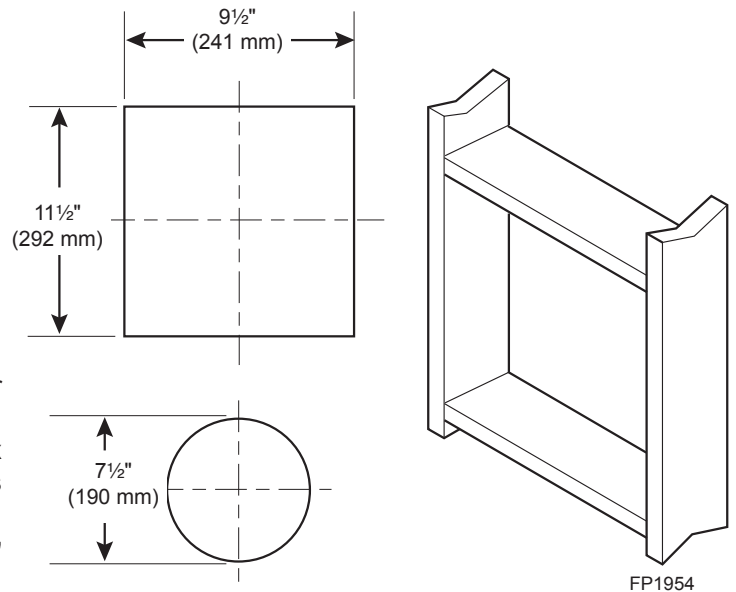

Figure 17 - Vent Opening Requirements
Combustible Walls: Cut a 11½"H x 9½" W (292 x 241 mm) hole through the exterior wall and frame as shown. *Figure 17*
3. Attach vent pipe assembly to the fireplace. Set fireplace in front of its permanent location to insure minimum clearances. Mark the wall for a 11½"H x 9½"W (292 x 241 mm) rectangle hole (for noncombustible material such as masonry block or concrete, a 7½" [190 mm] diameter hole is acceptable). *Figure 17*. The center of the hole should line up with the center line of the horizontal rigid vent pipe end. Be sure to allow for minimum rise. Cut a 11½"x9½" rectangle hole through combustible exterior wall (7½" diameter hole if noncombustible). Frame as necessary. Allow 1/4" minimum rise per foot. *Figure 17*
1. Establish vent hole through the wall. *Refer to Page 18, Figure 17*
3. Cut a hole in the roof using the locating hole as a center point. (Cover any exposed open vent pipes before cutting hole in roof). The 9½" x 9½" (241 x 241 mm) hole must be measured on the horizontal. Actual length may be larger depending on the pitch of the roof. There must be a 1" minimum clearance from the vent pipe to combustible materials. (Insulation should be considered a combustible material) Frame the opening as shown on Page 18, Figure 17.